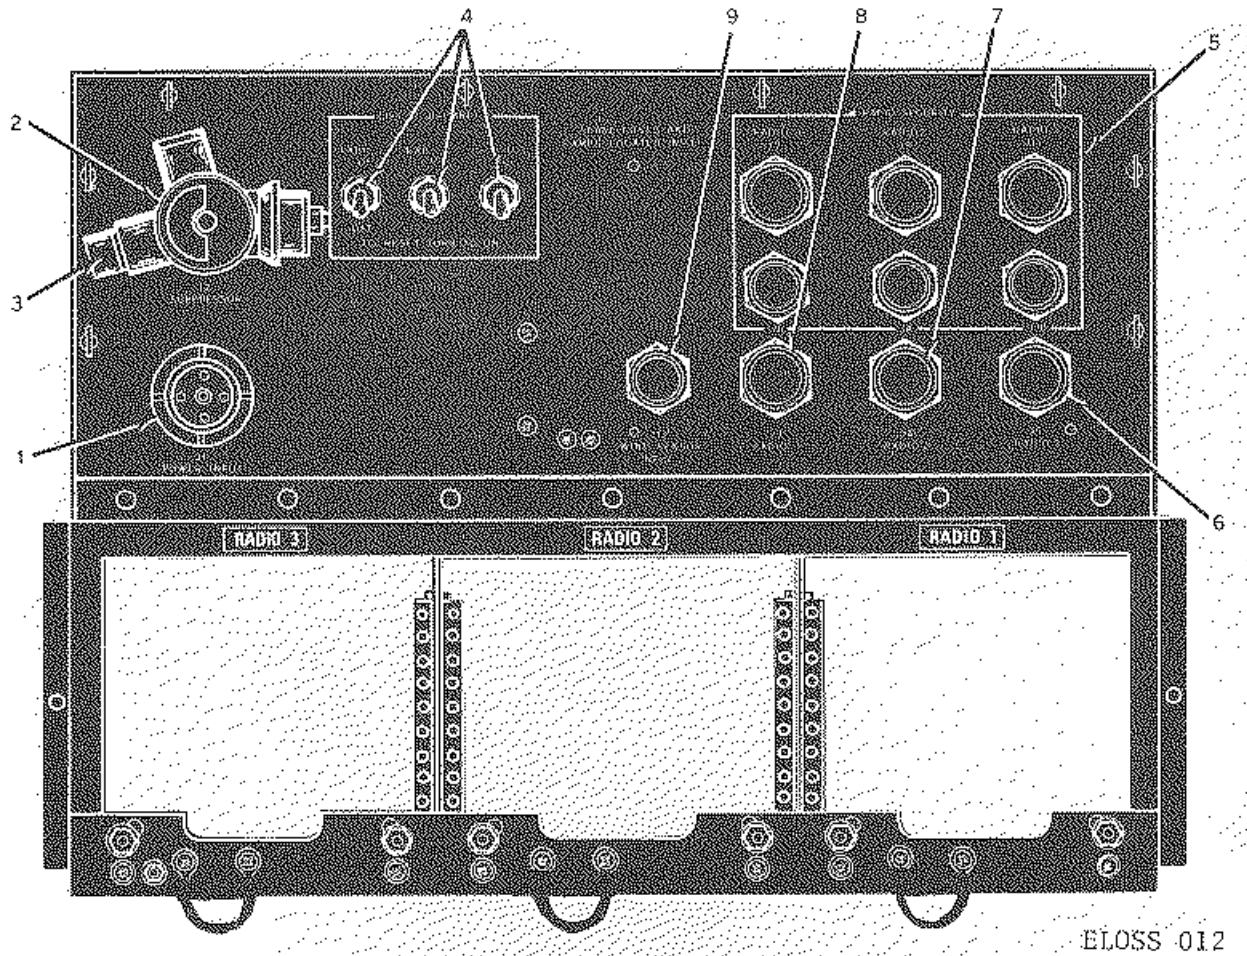

Figure 3-2. C-9921/TSQ-97, Rear Views
b. Rear Panel Connectors, Control and Indicator. Figure 3-2 shows a rear view of the Control Monitor and table 3-2 defines the function of each connector, switch or indicator. Also defined are the rear connectors and protective devices for the individual radio sets.